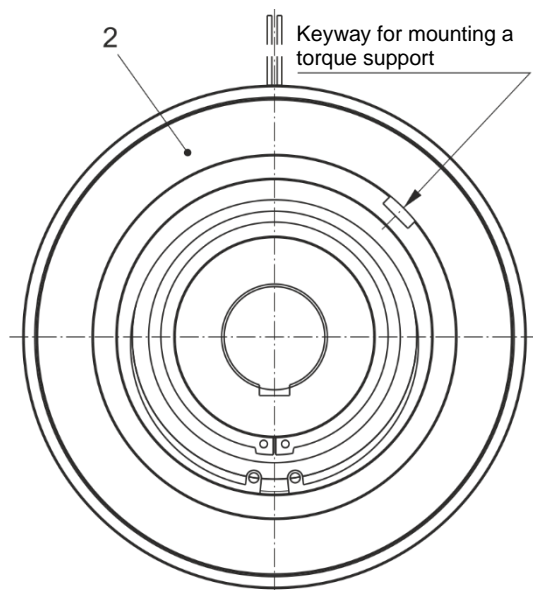

Fig. 2
- ❑ Secure the coil carrier (2) against distortion (Fig. 2).
- ❑ Keep the friction surfaces of rotor (1) and armature disk (8) free of oil and grease.
- ❑ Remove the clutch via the threaded hole in the transmission flange (11).